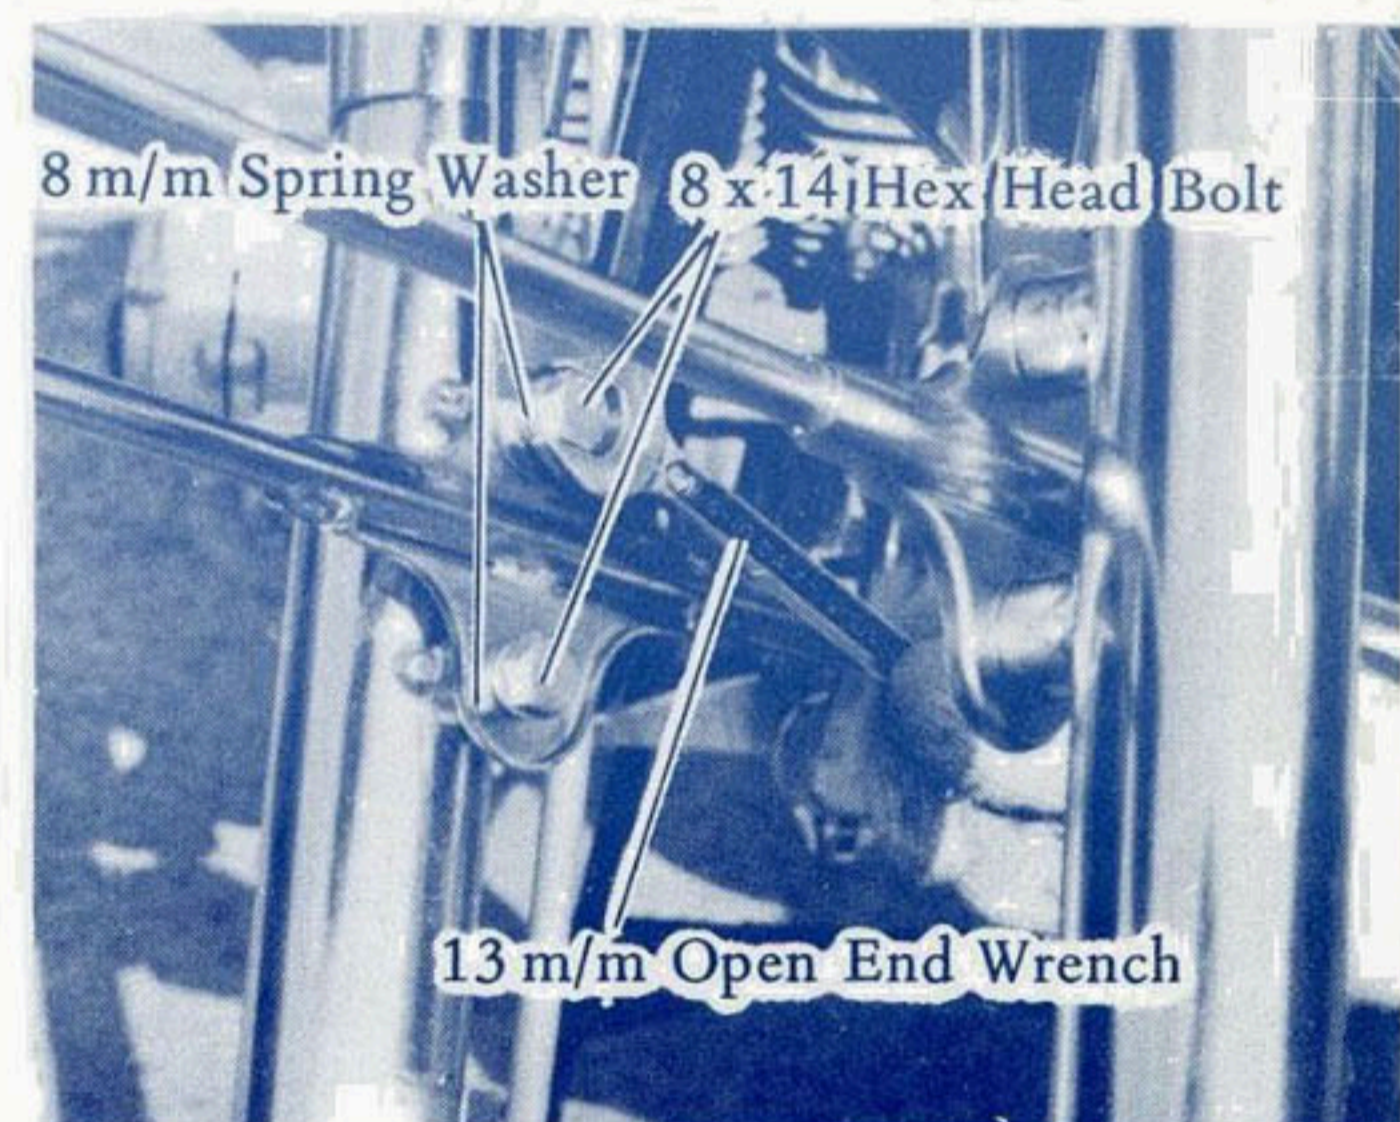

Fig. 2
1. Fit front fender with following parts as shown in fig. 2.